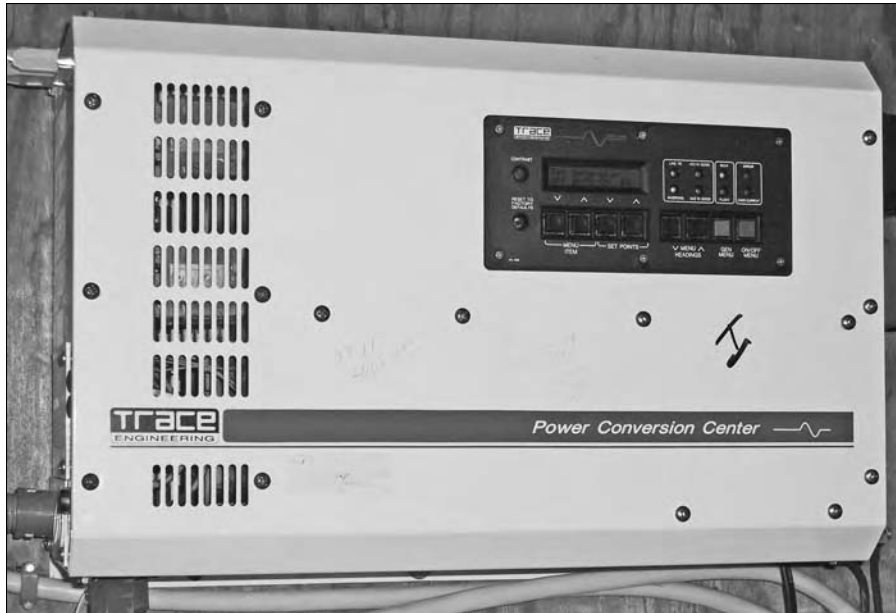

Figure 15-1:
If a computer-style UPS isn't quite powerful enough to suit your needs, consider stepping up to an inverter system. A UPS is a self-contained system. It stores *direct current (DC)* power in internally housed batteries, and then a component called the *inverter* converts that to the *alternating current (AC)* power most household electrical devices use. The inverter is a component of an inverter system. It uses the same technology as the UPS, but the external battery banks are much larger than those inside a UPS. They both convert battery power into *alternating current (AC)* when needed. Figure 15-1 shows a typical inverter.